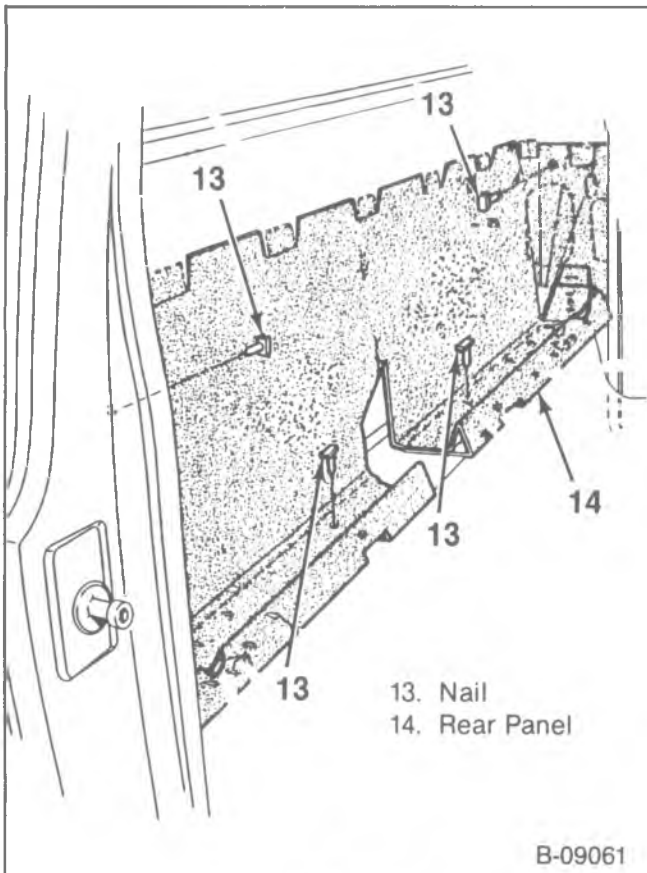

Figure 6—Rear Panel
3. Front and rear door scuff plates (27).
4. Rear panel nails (figure 6).
5. Rear panel (figure 6).
6. Rear panel nails (figure 6).
7. Front and rear door scuff plates (27).